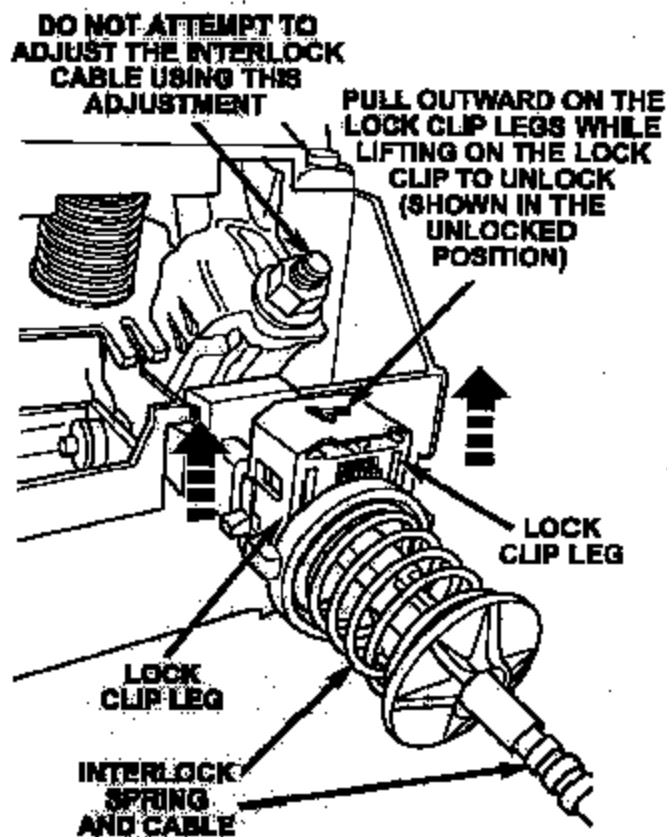

Figure 9 – Self Adjusting Cable
- Spread the lock clip legs while pulling the lock clip upward to unlock the self-adjuster lock (Figure 9).